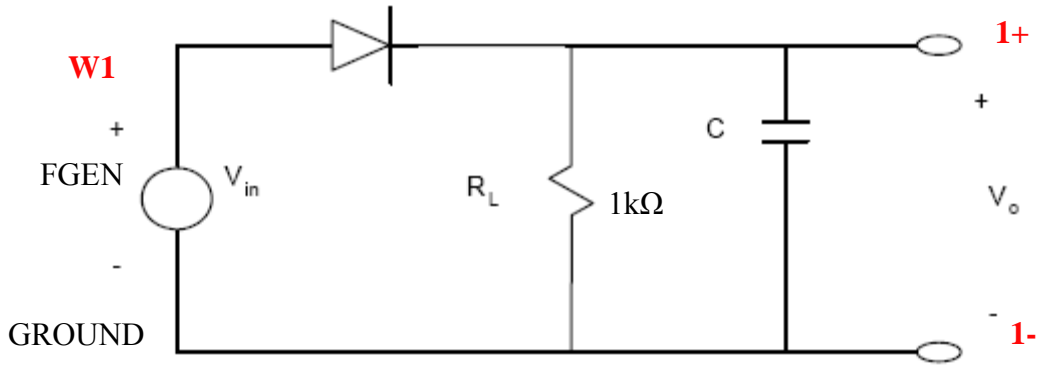
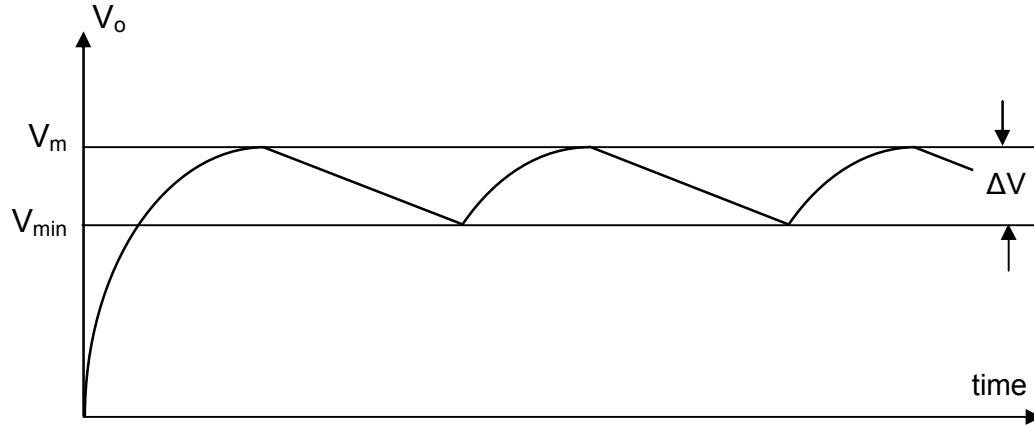

Figure 2.3: Rectifier circuit with an RC smoothing filter
Figure 2.4: Output wave shape from a full-wave filtered rectifier.
You should simulate the circuits shown in Figures 2.3 and 2.5 with the different resistor and capacitor values that you will use in the experiment. You should be prepared to compare your simulations with your measurements after you have built your circuits.
A popular smoothing filter is the capacitor-resistor filter, which consists of a single capacitor in parallel with the load resistor. Figure 2.3 shows such a filter connected to the output of a half-wave rectifier. The output wave shape of the filtered half-wave rectifier is similar to that shown in Figure 2.4, assuming that the time constant of the $R_L C$ filter is comparable to the period of the input voltage.
Notice that the output wave shape still has ripple, but the ripple is now saw-tooth or triangular shaped, and its variation is much less than that of the unfiltered pulses. The difference between the maximum and minimum of the filtered voltage is known as the **Ripple Voltage** (V_r). In Figure 2.4, this voltage is labeled ΔV . Thus, we have
For a half-wave rectifier, f_p is the frequency of the input voltage. For a full-wave rectifier, f_p is twice the frequency of the input voltage. The output of the filtered voltage for a full-wave rectifier is shown in Figure 2.4.
From Figure 2.4, we see that $\Delta V (=V_r)$ determines the amount of ripple in the output signal. From Equation (2.3), we see that for the ripple voltage V_r to be small, the $R_L C$ time constant must be large. In other words, the ripple can be reduced by increasing the discharging time constant $R_L C$. Hence, increasing either C or R_L will reduce the ripple voltage. It should be noted that the resistor R_L is usually inside a commercial power supply and any external load connected to the power supply is in parallel with R_L and acts both to lower the total load resistance and to increase the ripple. This is why an audible hum is often heard from power supplies when the external load resistance drops to a very low value.
$V_r(\text{rms})$ is the RMS value of the ripple voltage. The value of $V_r(\text{rms})$ can be calculated for various input wave shapes. For a complicated wave shape, such as that shown in Figure 2.4, the value of $V_r(\text{rms})$ is calculated as if the filtered, rectified wave were a triangular wave, for which
The average (dc) voltage will lie between V_m and V_{\min} . Therefore, for the filtered, triangular wave shape shown in Figure 2.4, a better value of V_{dc} would be given by
1. Build the circuit shown in Figure 2.3 using the NI-ELVIS function generator (FGEN) as the voltage source V_{in} . The connections are FGEN (pin #33) and GROUND (either pin 49 or 53) on the left side of the NI-ELVIS breadboard. **Leave the capacitor C out of the circuit for now.** When adding or removing components, ALWAYS "STOP" THE ELVIS INSTRUMENTS AND TURN OFF THE PROTOTYPING BOARD.